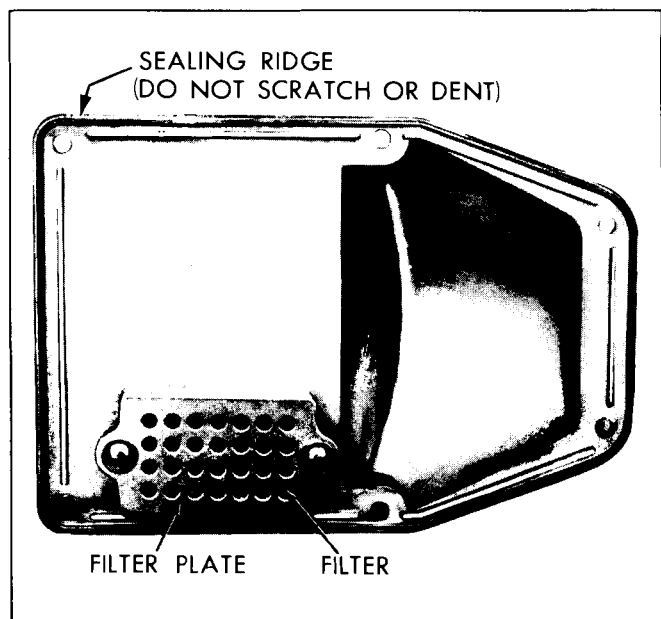

Fig. 15-20 Cover and Intake Filter Assembly
1. Remove screws and cover. To replace air filter in cover, push filter out from under filter plate (Fig. 15-20).